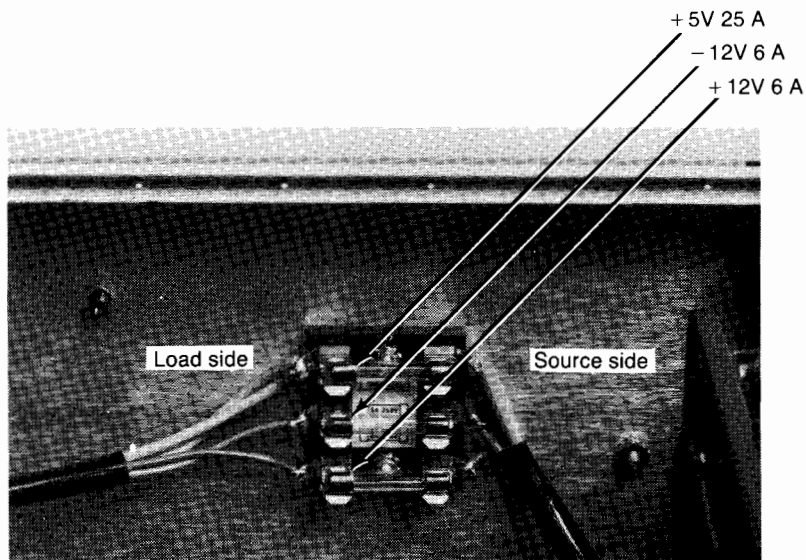

Figure 3-3. Fuse Block
4. Turn the expander off. If any voltage is not present, check the associated fuse located in the fuse block on the rear surface of the front panel (see figure 3-3). Replace open fuses with the proper value fuses.